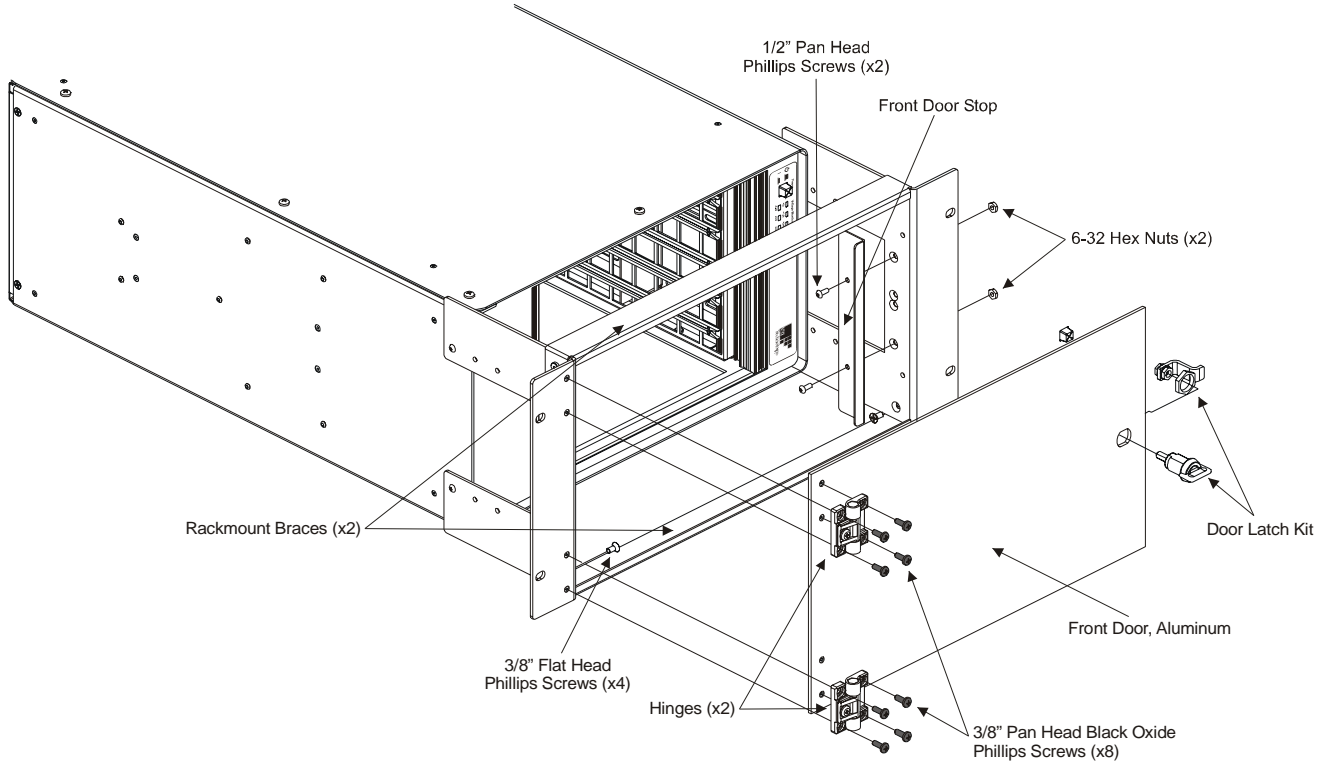

FIGURE 1-6: RACK DOOR INSTALLATION DIAGRAM
5. Locate the door latch bracket and install it on the rackmount ear opposite the end where the hinges will be installed. Use Figure 1-6 as a reference.